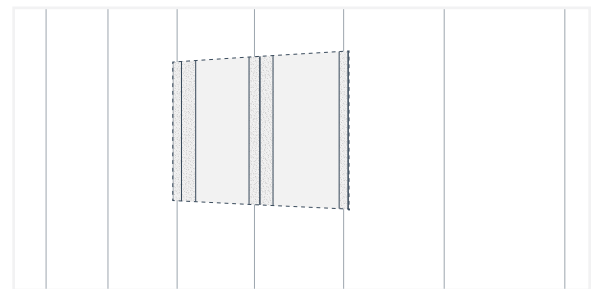

Fig. 51
2. Using a saw, cut out the marked area on the wall. If using a jig saw, drill a half an inch hole in one of the corners of the marked area as a starting point for the blade to insert (Fig. 51).